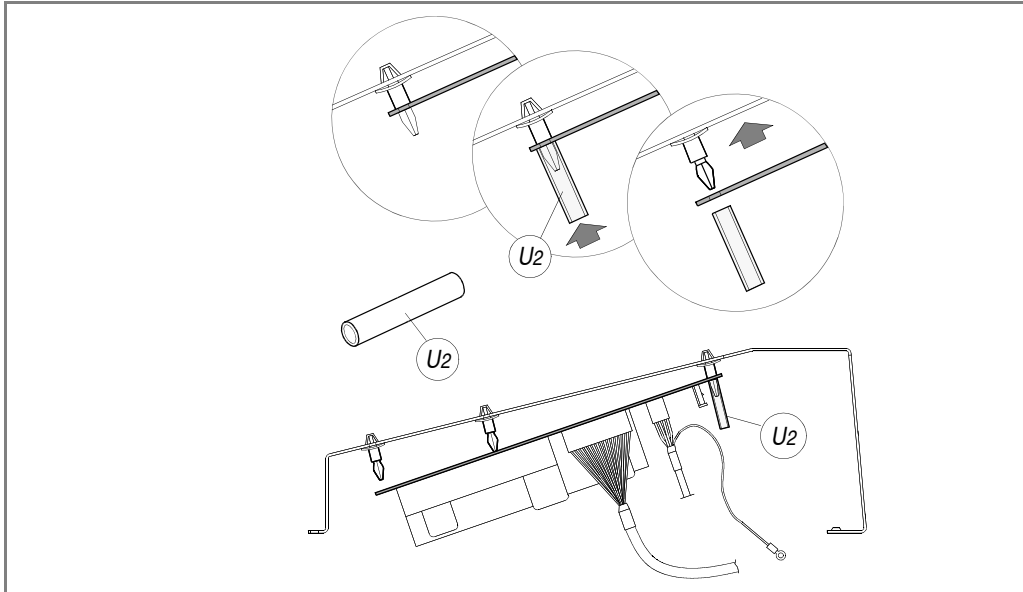

Fig. 42
- 4) with the special tool (U2) provided with the replacement board (fig. 42), release the five clips on the board.